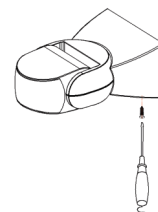

Figure 1
- Remove the transparent vinyl cover which is at the bottom of the sensor (refer to figure 1).